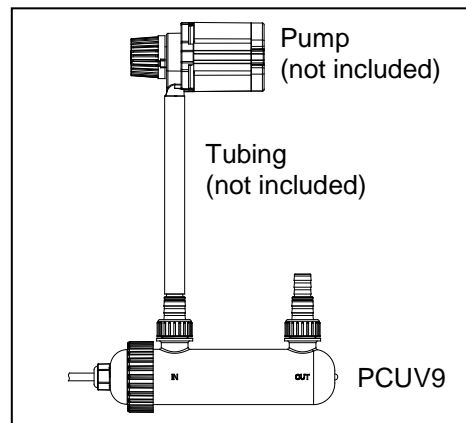

Fig. 3
3. Connect tubing from the outlet of your pump to the inlet of the PCUV9. Fig. 3